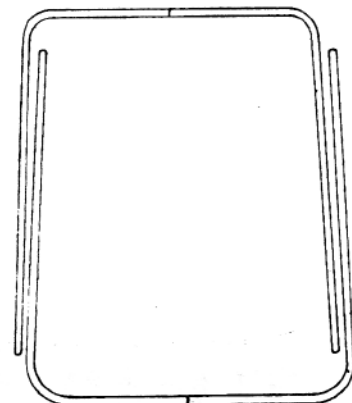

Fig. 4
4. Assemble both sets of legs (A) together by fitting dowel (B) into short part of legs and pressing together and repeat for second set as per Fig.4.